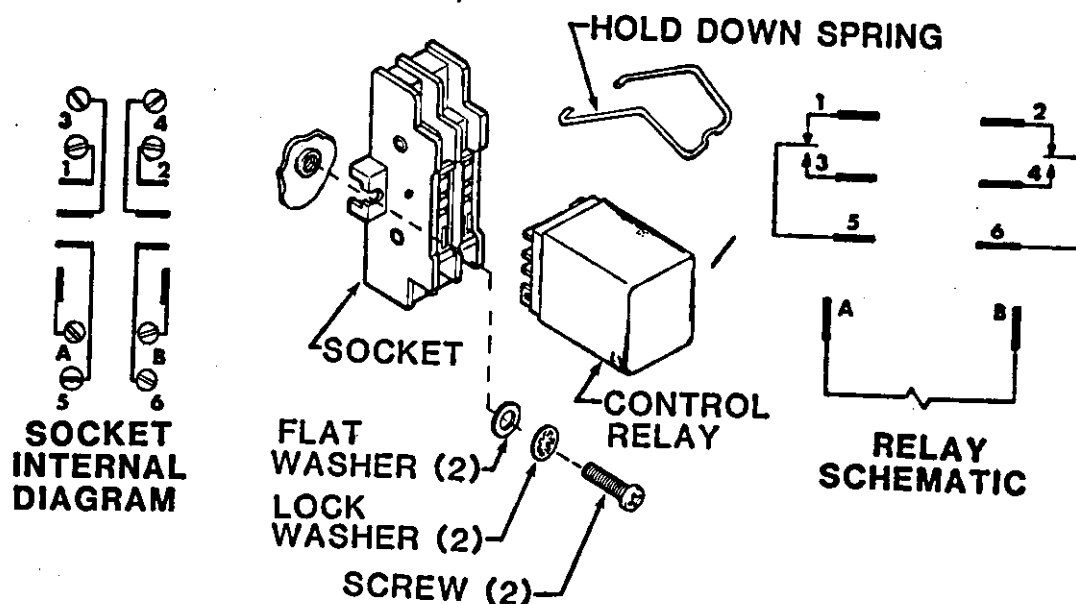

Figure 5-21. Control Relay (K10)
(2) If relay fails above tests, replace relay.
(3) Using a multimeter and socket internal diagram shown on figure 5-21, check continuity between contacts and terminals of control relay socket.